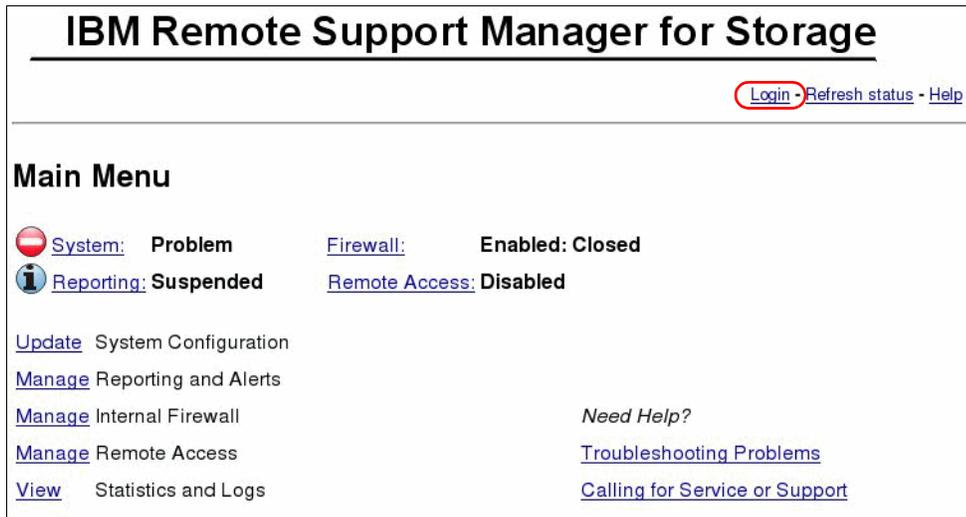

Figure 6-59 RSM Administration window
- c. Click the manage icon on the desktop to open the Web browser presenting the main administration window, as shown in Figure 6-59. Click **Login**.